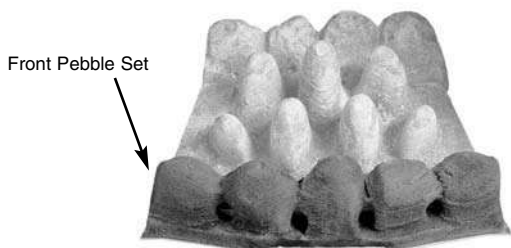

Fig. 22
3. Position the front pebble set on the front ceramic retainer, making sure that the back edge is pushed up against the front of the burner strip (Fig. 22).